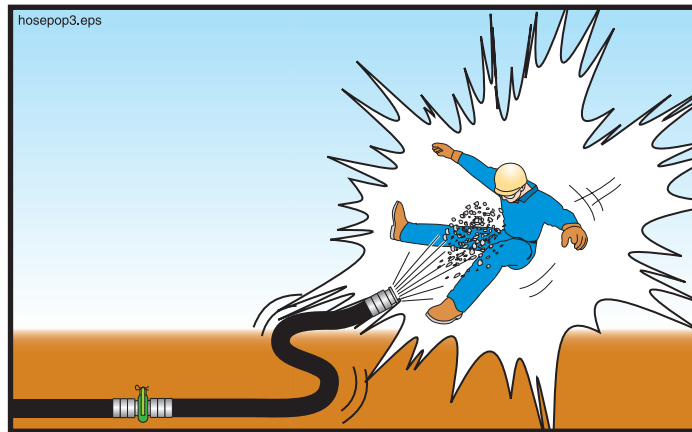

Figure 60
- **Do not use compressed air to blow out concrete delivery hose, single pipe sections and short pipelines up to a length of 40 feet.** Hoses will jump and move unpredictably; short pipelines don't have enough concrete to resist the force of the air, causing it to discharge too quickly, like a cannon (Figure 60).